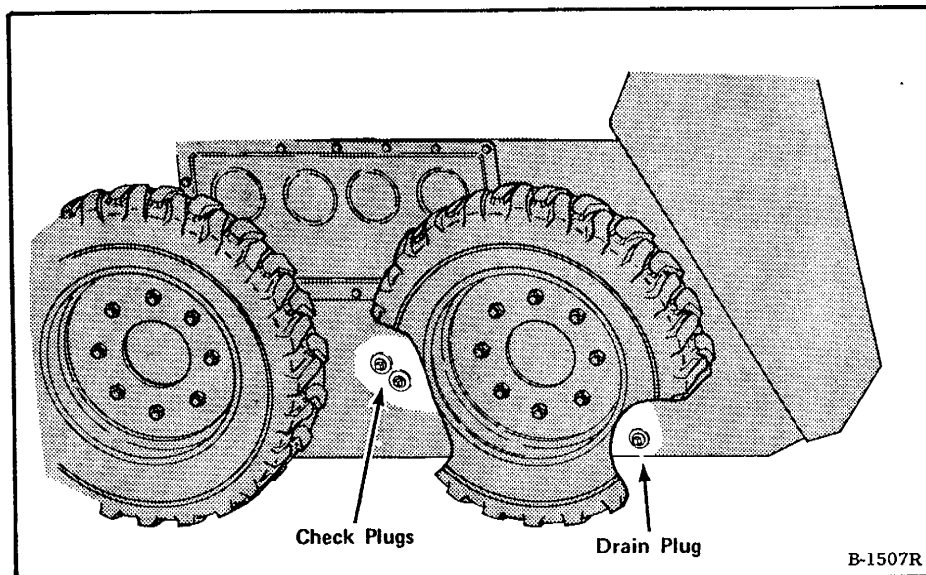

Fig. 1-21 Reservoir Check & Drain Plug
Fluid level is checked by removing the lower check plug at the left side of the machine. If oil does not flow from this outlet, install the plug and add fluid until it runs out the upper check outlet (Fig. 1-21). Overfilling the reservoir a small amount will not effect the operation of the machine.
- (1) Lift and block the front of the Bobcat higher than the rear and leave for a few hours.
- (2) Loosen the plugs at the rear of the machine on both sides (Fig. 1-21). Let the water run out, and then tighten the plugs.